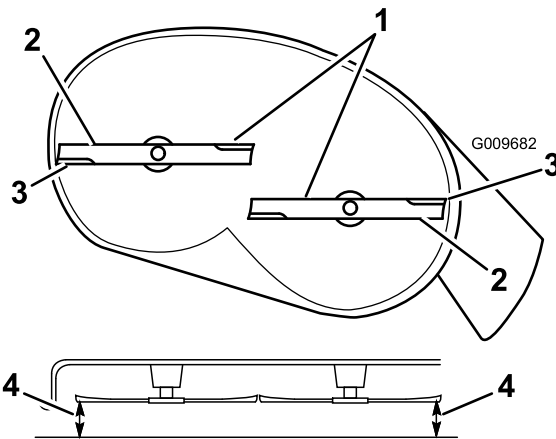

Figure 53
- Carefully rotate the blades so that they are all side to side (Figure 53).
- Measure between the outside cutting edges and the flat surface (Figure 53). If both measurements are not within 3/16 inch (5 mm), an adjustment is required; continue with this procedure.